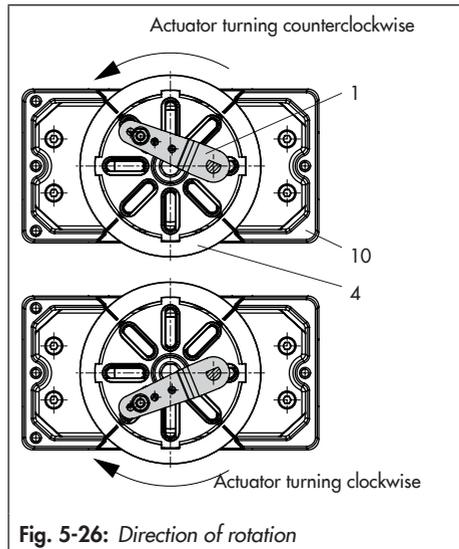

Fig. 5-26: Direction of rotation
2. For **SAMSON Type 3278 and VETEC S160 Rotary Actuators**, fasten the adapter (5) onto the free end of the shaft and for **VETEC R Actuator**, place on the adapter (5.1). For **Type 3278, VETEC S160 and VETEC R Actuators**, place on the adapter (3). For VDI/VDE version, this step depends on the actuator size.
4. Fasten coupling wheel (4) on the slotted actuator shaft or adapter (3) using screw (4.1) and disk spring (4.2).
5. Unscrew the standard follower pin (2) from the positioner's M lever (1). Attach the follower pin (Ø5 mm) included in the mounting kit to pin position 90°.
6. Place positioner on housing (10) and screw it tight. Taking the actuator's direction of rotation into account, adjust lever (1) so that it engages in the correct slot with its follower pin (see Fig. 5-26).